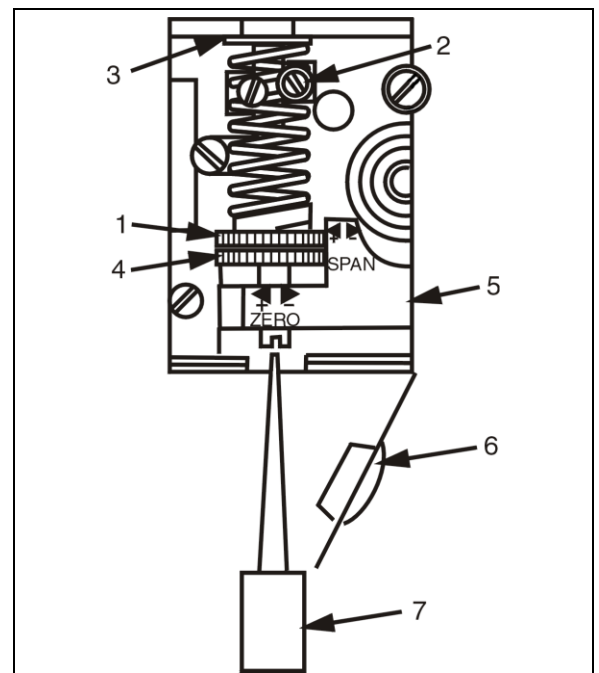

Figure 6 – Zero and Span Adjustment
Span is adjusted with the yellow (upper) thumb wheel (1) located on the feedback spring. See Figure 6. To adjust the span, loosen the locking screw (2) and turn the yellow thumb wheel. Do not allow the top of the spring to contact the spring guide (3). When span is set, tighten the locking screw. Always check Zero after adjusting Span.